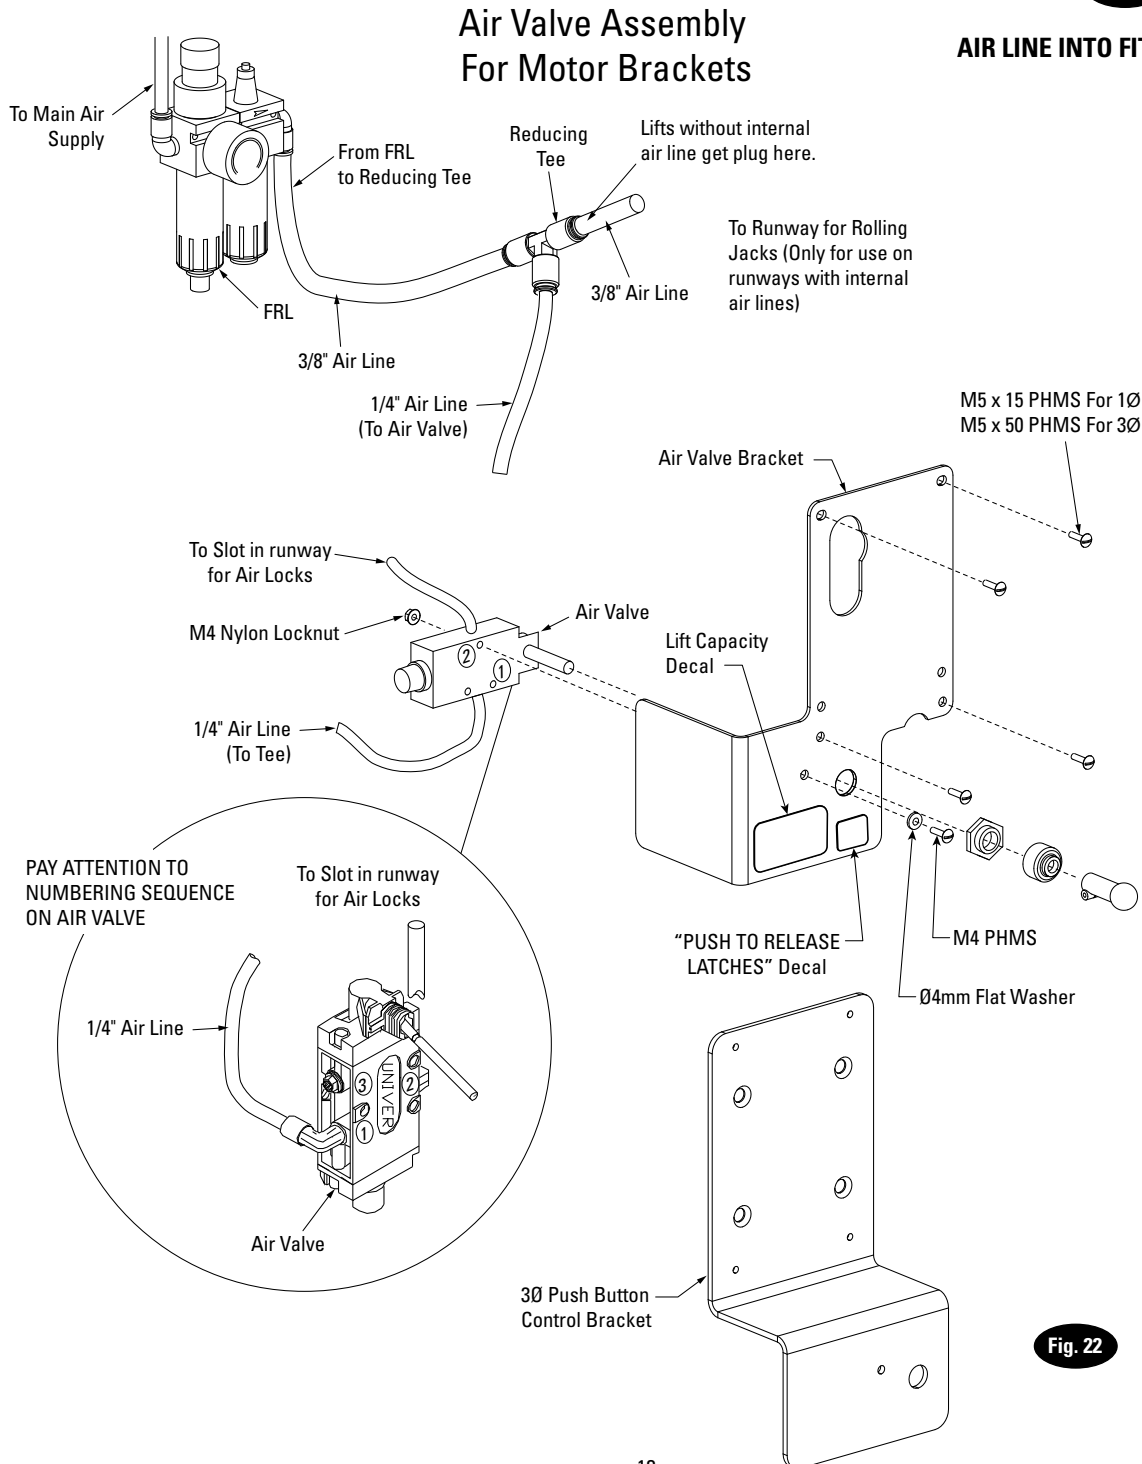
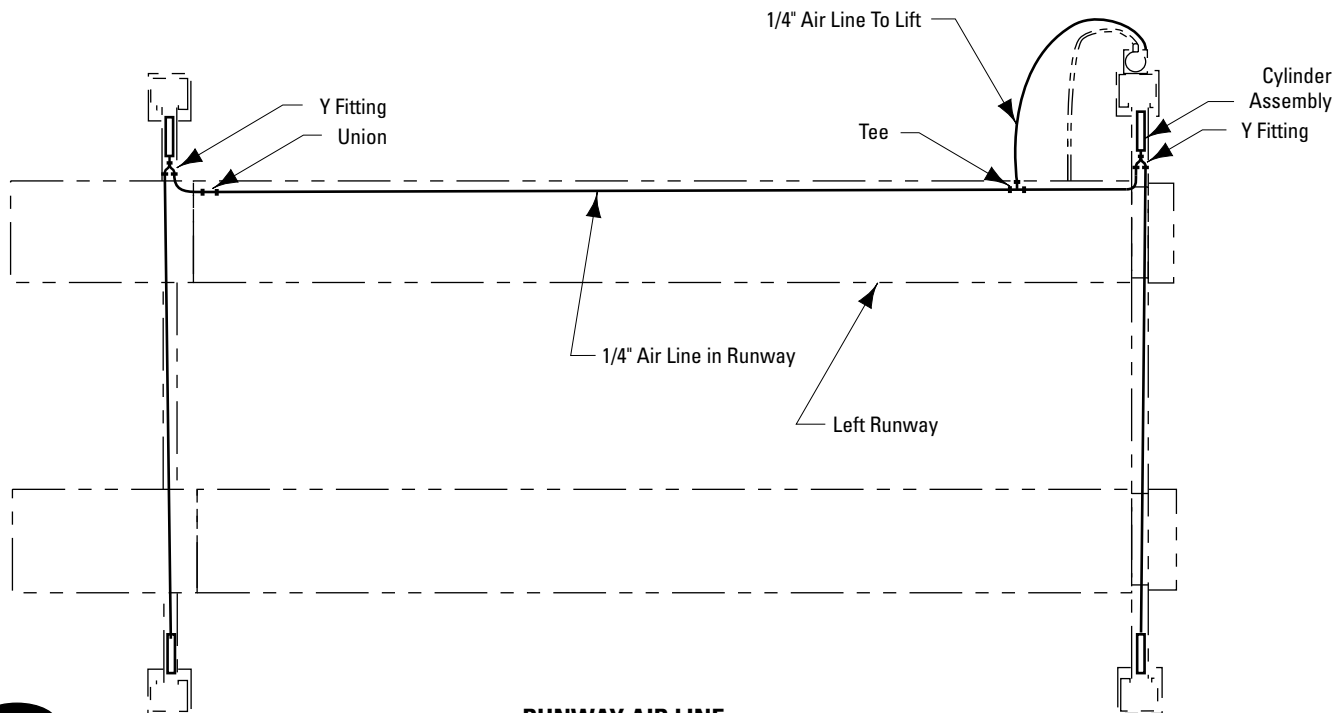

Fig. 22
Fig. 25
- D. Run hydraulic hose from runway through slot in side of runway to elbow, Fig. 22. DO NOT use Teflon tape on hydraulic hose connections. Clean elbow and hose. Inspect all threads for damage and hose ends to be sure they are crimped. Attach hose to elbow using Flared Fittings Tightening Procedure.
- Run 3/8" air line from existing facility main air supply to the FRL. Run 3/8" air line from FRL to reducing tee, Fig. 22.
- Connect air valve to Reducing Tee, Fig. 22.
- Attach air valve to air bracket (or 3Ø Push Button Control Bracket when used), see Fig. 22.
Remove motor warnings decal from motor cover. Remove motor cover screws. Place air valve bracket on top of motor cover so that the raise switch protrudes through the hole in the air valve bracket. Mount air valve bracket and motor cover with the existing single phase (4) M5 x 15 PHMS motor cover screws or supplied M5 x 50 PHMS for three phase, Fig. 22.
- F. Attach enclosed NP280 decal ("PUSH TO RELEASE LATCHES") and NP864 (LIFT CAPACITY) below button on bracket, Fig. 22. Run 1/4" air line from air valve to the slot in the fixed runway. Cut airline and attach a Tee, Fig. 25, 22.
- G. Run 1/4" air line from the Tee in the front yoke through air output on the air valve, Fig. 22, and Fig. 25.
- H. If lift has internal air, remove plug in reducing tee and connect the 3/8" line coiled inside of runway, Fig. 22.